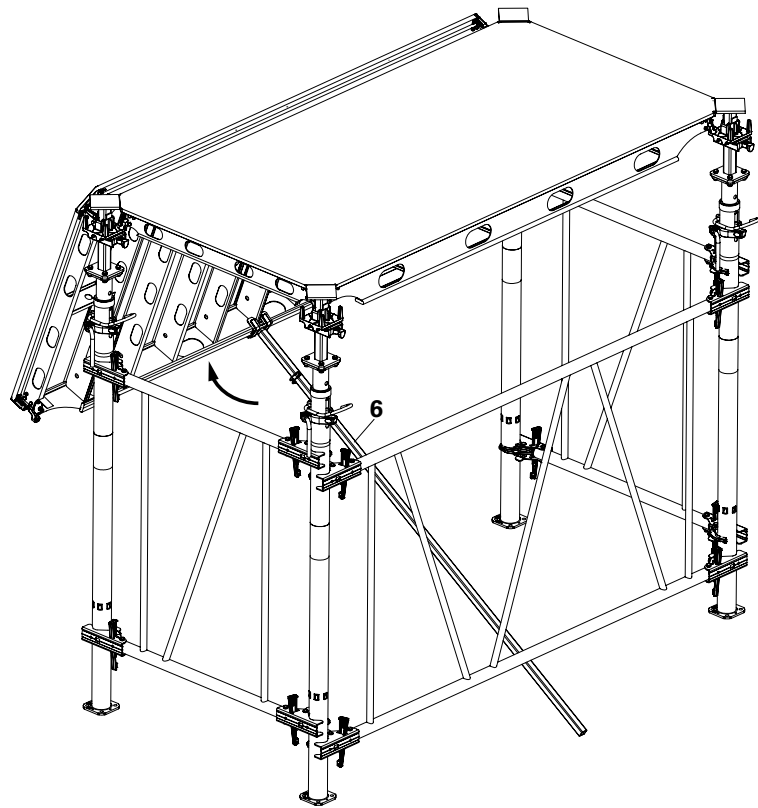

Fig. A4.06
2. Using the shuttering aid (6), swing the panel up supporting it temporarily until the next two props are installed. (Fig. A4.06)